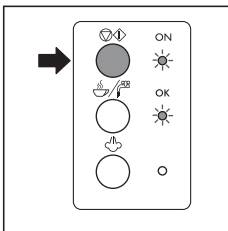
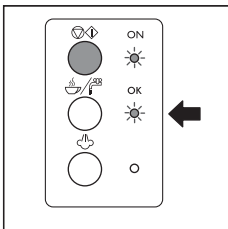
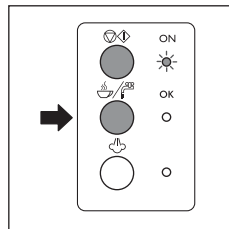

fig. 3
fig. 5
fig. 6
1. Press the ON/OFF button (fig. 3).
3. Position a cup under the filter holder. Use the same cup that the coffee will be served in, so that it may be preheated. Wait until the "OK" light comes on (fig. 5), then immediately press the coffee button (fig. 6). Allow the water to run until the OK indicator light goes out, then stop the water by pressing the coffee button again (fig. 6).
6. Make sure the OK indicator light (fig. 5) is on (if it is off, wait until it comes on), then press the coffee button (fig. 6). Once the required quantity of coffee has been obtained, interrupt delivery by pressing the same button again (fig. 6).
9. To turn the coffee machine off, press the ON/OFF button (fig. 3).
6. To turn the coffee machine off, press the ON/OFF button (fig. 3).
1. Turn the appliance on by pressing the ON/OFF button (fig. 3). Wait until the OK indicator light comes on (fig. 5).
3. Press the coffee button (fig. 6) and at the same time open the steam knob. Hot water is delivered from the cappuccino maker.